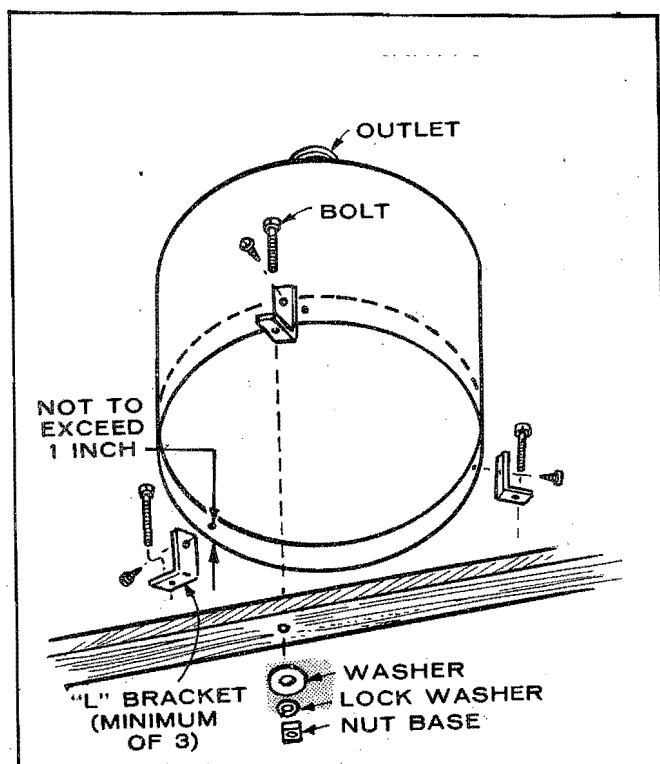

FIGURE 6. SECURING THE MUFFLER
1. Secure the muffler to the predetermined location (within ten-feet of the engine exhaust outlet) using "L" brackets (Figure 6) or other suitable mounting devices such as wood blocks or metal straps. Flexible mounts may be used if so desired. Allow for air passage under muffler to prevent condensation.